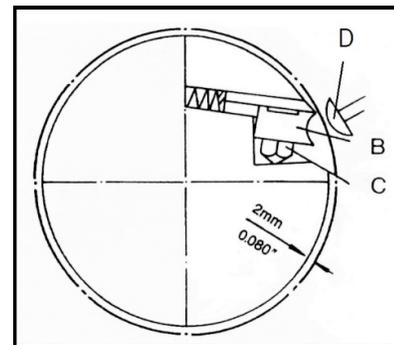

Fig. 9
4. Slip knife and knife gib (B) into place and tighten lock screws (C) lightly. Fig. 9
5. Rotate cutterhead backwards by hand and adjust knife until it just touches the gauge (D). Fig. 9